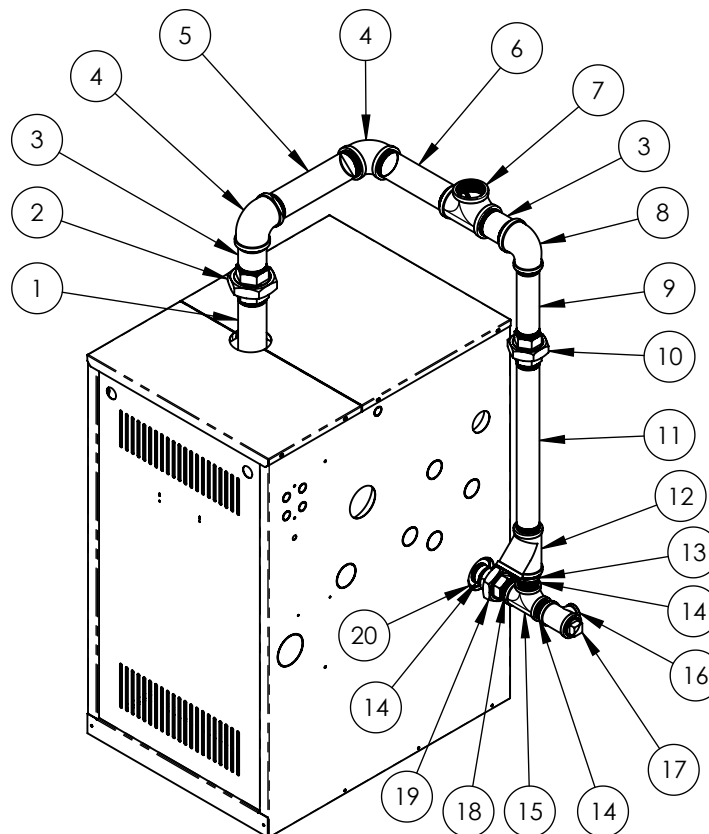

Figure 1: Standard Header Gravity Return Diagram for 3 and 4 Section Boilers
1. Assemble Gravity Return Piping Kit for 3 and 4 section boilers as illustrated in Figure 1 for Standard Header configuration or Figure 3 for Drop Header configuration.